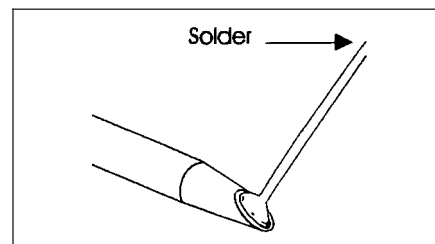

Figure 3 Apply Solder to 1/3 Tip
6. Apply enough solder to cover approximately one-third of the tip. The amount of solder will vary with the number and pitch of the leads. For fewer leads, or finer pitch leads, apply less solder. Place the solder at the edge of the tip face that will meet the leads, rather than directly at the tip. (See Figure 3.)